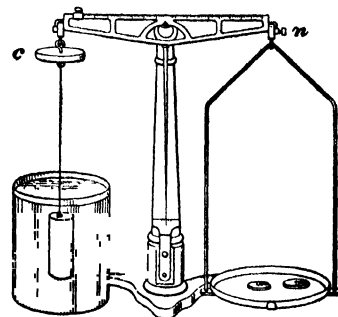

FIG 14
**I. To test Archimedes' principle for immersed bodies.** Remove the left pan from the balance and replace it by the counterpoise *c* (Fig 14) which is made as nearly as possible of the same weight as the pan. Adjust the balance by means of the nut *n* until the pointer stands at the middle mark. Suspend an aluminum cylinder or any regular solid body of volume 50 cc or more from the left arm of the balance and counterpoise accurately with weights in the opposite pan. Record this weight.
Immerse the cylinder in water, as in Fig 14. Carefully remove all air bubbles and weigh again. From these observations find the *loss of weight* which the body experiences when immersed in water. Measure the dimensions of the cylinder with the micrometer or vernier calipers, or simply by wrapping a fine silk thread about it, say thirty times, and measuring the length of the thread. Then compute the volume in cubic centimeters.